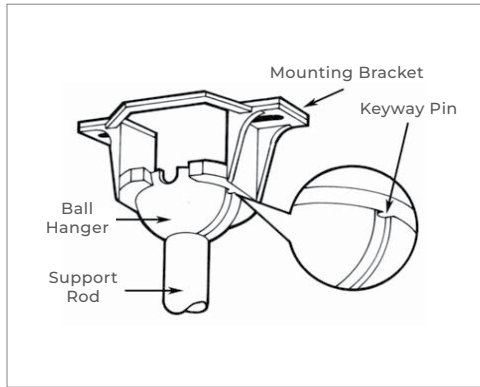

FIGURE 5
* Take note that the ball hanger on the end of the support rod is grooved on one side (Fig 5). This is meant to align with the keyway pin on the mounting bracket and prevents the ceiling fan from spinning on the mounting bracket.